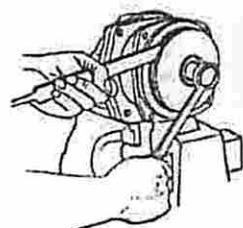

Figure 11
2. To remove the Impeller Nut, clamp the Flange in a vise and insert a large screwdriver or file (at least 10" long) into the Impeller Vanes to prevent the Impeller from turning when loosening the Impeller Nut. Use a socket wrench (3/4" for Series 9000C or 5/8" for Series 9200C and 9400C) to remove the Impeller Nut by turning it counterclockwise (See Figure 11). [Use 7/8" deep socket wrench to remove plastic seal nut, then 9/16" deep socket to remove metal jam nut, rubber gasket and washer.]